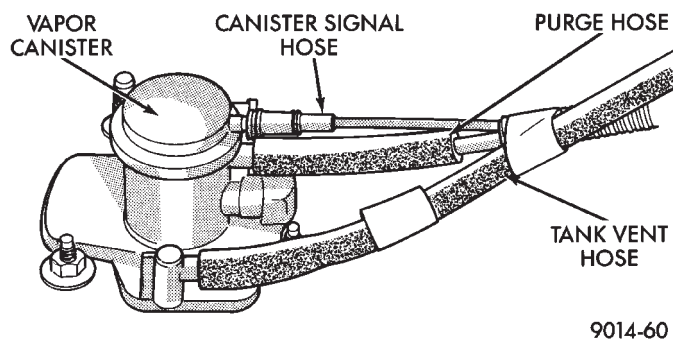
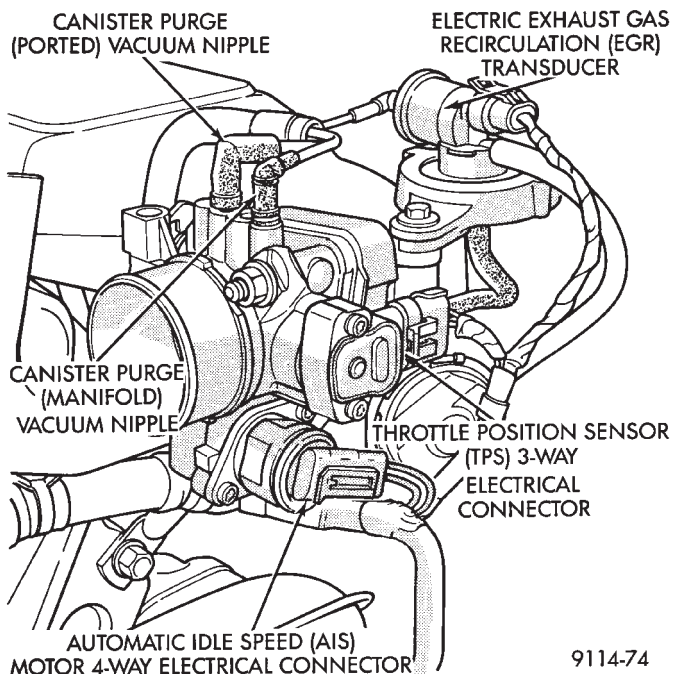

Fig. 8 Vapor Canister
Fig. 9 Throttle Body Electrical and Vacuum Connections
(11) Verify the hoses are securely attached to the vapor canister (Fig. 8).
(12) Ensure the harness connectors for the fuel injector are attached to the correct injector and not damaged.
(13) Verify the fuel injector harness and engine wiring harness connectors are fully inserted into the main wiring harness.
(14) Check the vacuum connections at the throttle body (Fig. 9).
(15) Ensure the AIS motor and TPS electrical connectors are fully seated and not damaged (Fig. 9).
(16) Verify the harness connector is attached to the electric EGR transducer solenoid (Fig. 9).
(17) Verify the vacuum connections at the transducer are secure (Fig. 9). Check all EGR system vacuum hoses for secure connections. Inspect the EGR tube.